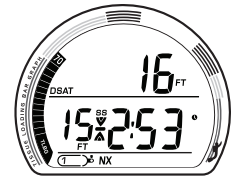

Fig. 68 - SS MAIN
**SAFETY STOP MAIN**, information includes (Fig. 68, 69) -